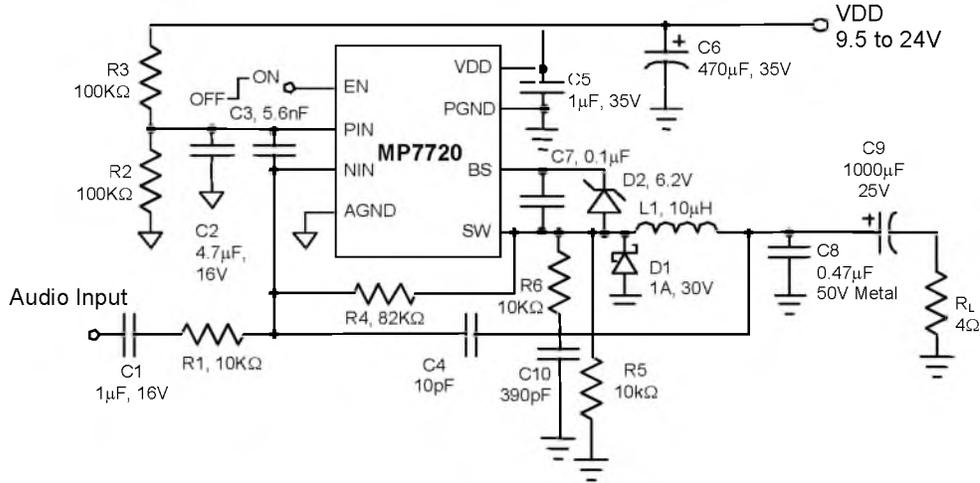

Figure 3: 20W Mono Typical Application Circuit
**Table 2: Operating Specifications** (Circuit of Figure 3,  $V_{DD}=24V$ ,  $V_{EN}=5V$ ,  $T_A=25^\circ C$ )